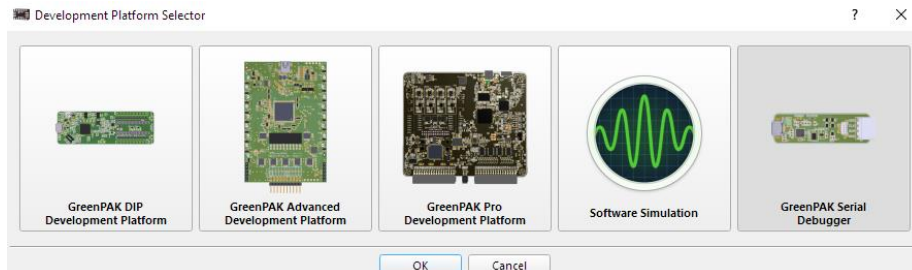

Figure 2: Development Platform Selector
4. Open the “Debug” tool within the GreenPAK Designer software and select the “GreenPAK Serial Debugger”. If the window in Figure 2 does not appear, click the “Change Platform” button in the “Debugging Controls” window.